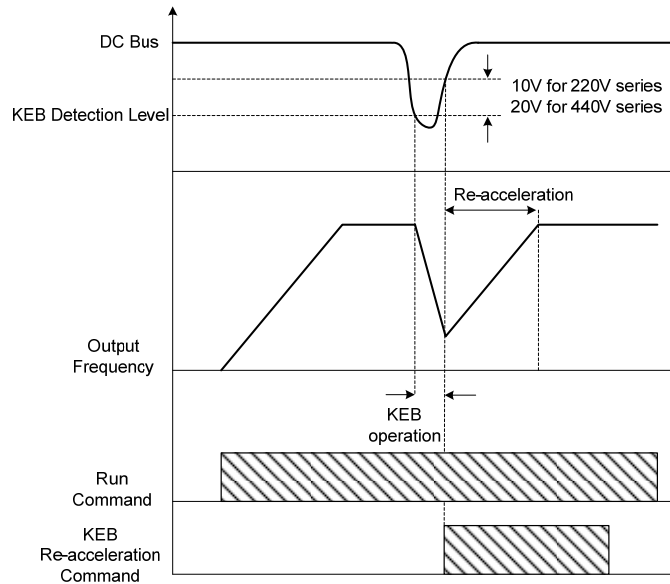

Figure 4.3.95 KEB operation
- (1) KEB eceleratin time (11-47)
- If 11-47 is not set to 0.0, KEB function will be enabled. When DC voltage is lower than the set value of 11-48, the KEB function will start decelerating according to 11-47. Until the DC voltage is higher than 11-48 +10 V (220V series +10 V, 440V Series +20 V), the digital input command (03-00 to 03-07) will make the driver re-accelerate to the original frequency. Refer to the example in Figure 4.3.95.